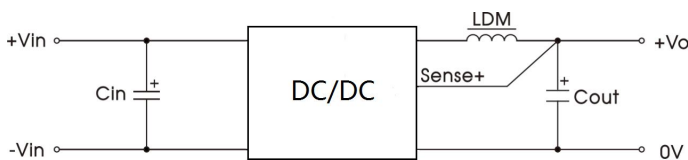

Fig. 2
Notes: ① The method is used for ripple and noise test, please refer to Fig.2 and DC-DC Converter Application Notes for specific information;
② Over-temperature protection for product is output off.
- (1) During product testing and application, please follow the recommended test circuit (Fig. 2); At least one electrolytic capacitor C_{in} is guaranteed to be connected externally to suppress the possible input surge voltage; An external inductor and electrolytic capacitor are connected to output for output filtering;
- (2) If the input terminal of the product is connected in parallel with a circuit with large transient energy (such as a parallel motor drive circuit), the input voltage of the product may be pulled down. At this time, pay attention to the fluctuation of the input voltage of the product, and it is recommended to appropriately increase the capacitance of the electrolytic capacitor C_{in} at the input terminal to ensure the stability of the input terminal voltage and avoid the situation where the input voltage is lower than the under-voltage protection point and cause the product to restart repeatedly;
- (3) If the input and output ripple needs to be further reduced, C_{in} and C_{out} capacity of external capacitors can be appropriately increased or external capacitors with small series equivalent impedance can be selected.